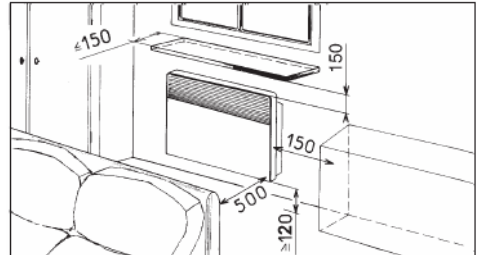

Figure 1.
1. Ensure the safety zones (mm) in following figure are kept free (see Figure 1).